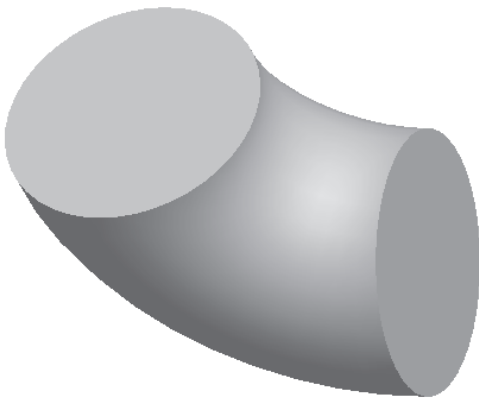

Figure 7-89 Sweep feature without datum planes
2. Choose the **Saved view list** button from the **View** toolbar. From the drop-down list, choose the **Default Orientation** option. The model orients in the drawing area, as shown in Figure 7-89. You can use the middle mouse button to change the orientation of the model.